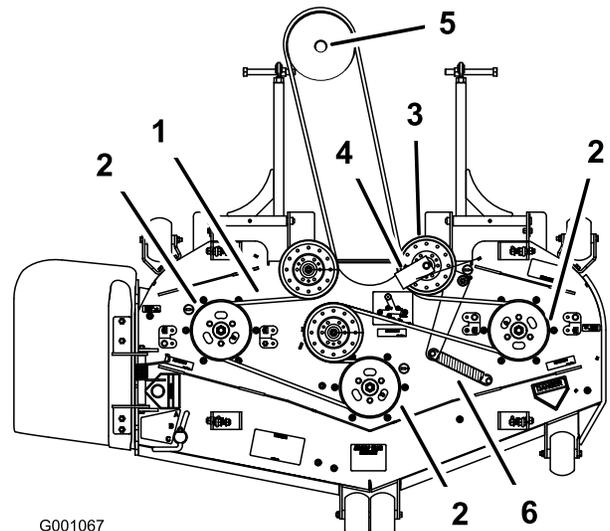

Figure 59
6. Install the new belt around the mower pulleys and the gearbox pulley under the engine (Figure 59).
7. Install spring to the idler arm (Figure 59).
8. Install the belt guide on the spring loaded idler at a 45 degree angle as shown in Figure 59.